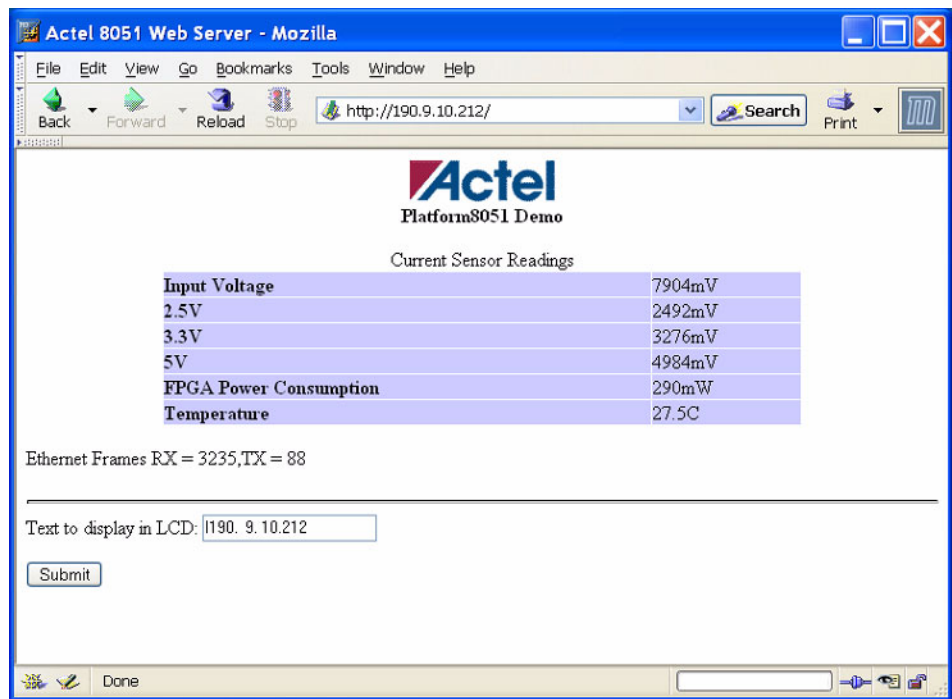

Figure 7-3. The Web Page Served by the Example Design
7. The web page shown in Figure 7-3 on page 70 will appear.
7. **The web page shown in Figure 7-3 on page 70 will appear.**
The web server software is written in C and provided on the Platform8051 Development Kit CD. It is example code and is not supported or warranted by Actel. The Platform8051 Web Server user interface is a web page shown in Figure 7-3.